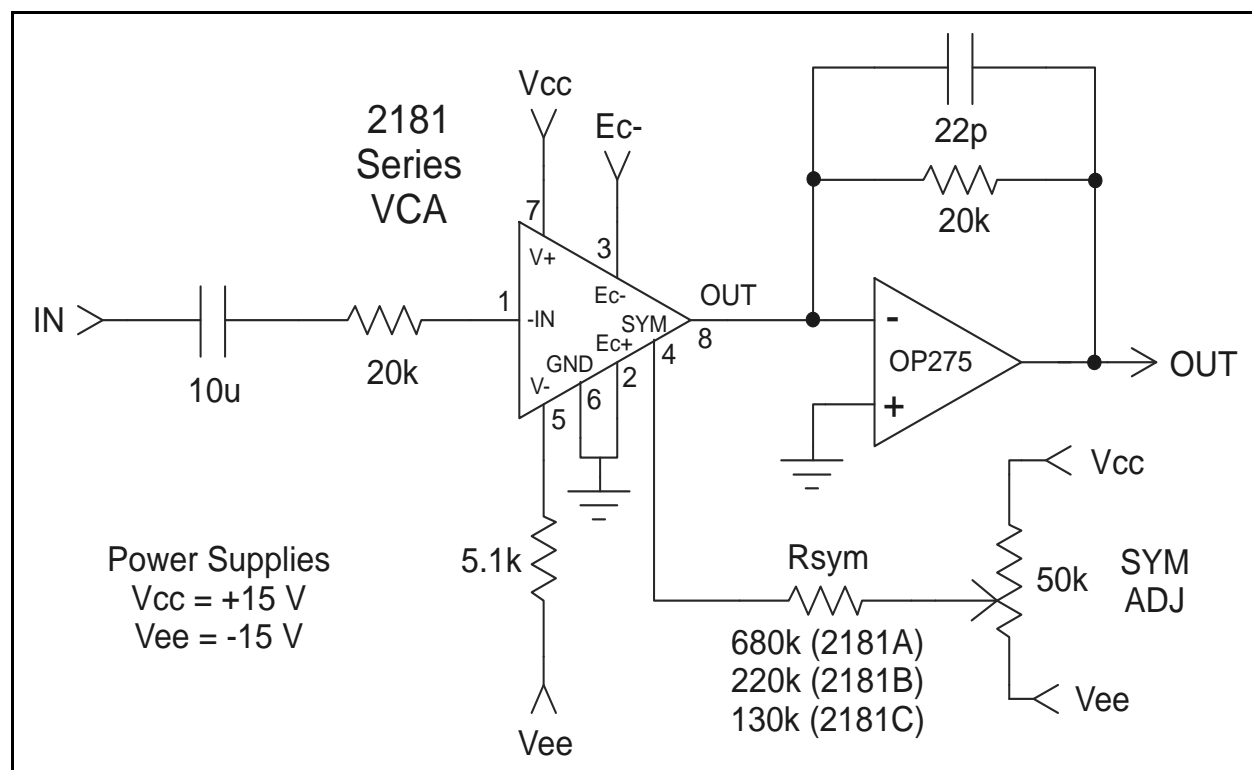
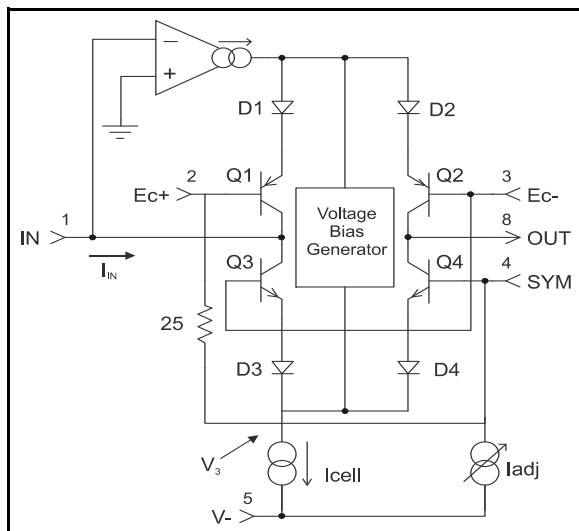
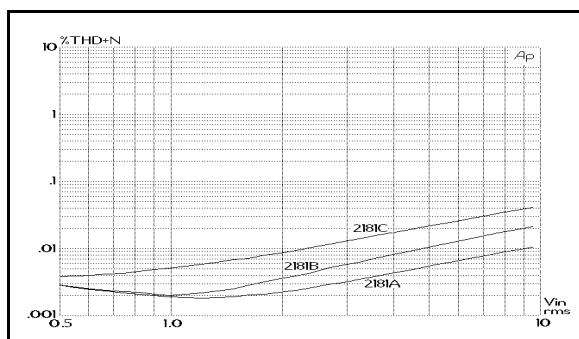
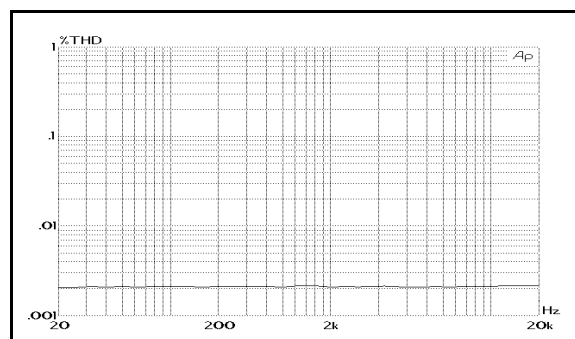

Figure 2. Typical Application Circuit
Figure 5. Simplified Internal Circuit Diagram
Figure 10. 1 kHz THD+Noise vs. Input Level, 0dB Gain
Figure 13. 2181A THD+N vs Frequency, 0dB gain 1kHz 1V
2. Unless otherwise noted,  $T_A = 25^\circ\text{C}$ ,  $V_{CC} = +15\text{V}$ ,  $V_{EE} = -15\text{V}$ . Test circuit as shown in Figure 2. SYM ADJ is adjusted for minimum THD at 1 V, 1 kHz,  $E_{C-} = -E_{C+} = 0$  V.
Figure 5 presents a considerably simplified internal circuit diagram of the IC. The ac input signal current flows in pin 1, the input pin. An internal operational transconductance amplifier (OTA) works to maintain pin 1 at a virtual ground potential by driving the emitters of Q1 and (through the Voltage Bias Generator) Q3. Q3/D3 and Q1/D1 act to log the input current, producing a voltage, V3, which represents the bipolar logarithm of the input current. (The voltage at the junction of D1 and D2 is the same as V3, but shifted by four forward Vbe drops.)
In normal operation, the output current is converted to a voltage via an opamp-based I-V converter, as shown in Figure 2, where the conversion ratio is determined by the feedback resistor connected between the output and inverting input. The signal path through the VCA and the output opamp is non-inverting.
The 2181 current consumption is determined by the resistor between pin 5 (V-) and the negative supply voltage ( $V_{EE}$ ). Typically, with 15V supplies, the resistor is 5.1 kΩ, which provides approximately 2.4 mA. This current is split into two paths: 570 μA is used for biasing the IC, and the remainder becomes  $I_{CELL}$  as shown in Figure 5.  $I_{CELL}$  is further
The 2181-Series VCAs are intended to be adjusted for minimum distortion by applying a small variable offset voltage to pin 4, the SYM pin. Note that there is a 25 Ω resistor internal to the 2181 between pin 4 and pin 2. As shown in Figure 2, Page 3, the usual method of applying this offset is to use the internal 25 Ω resistor along with a larger value resistor to form a voltage divider connected to the wiper of a trim pot across the supply rails.
The 2181-Series VCA design, fabrication and testing ensure extremely good audio performance when used as recommended. The 2181 maintains low distortion over a wide range of gain, cut and signal levels. Figures 10 through 12 show typical distortion performance for representative samples of each grade of the part. At or near unity gain, the 2181 behaves much like a good opamp, with low distortion over the entire audio band. Figure 13 shows typical THD for a 2181A over frequency at 0 dB gain, with a 1 V input signal, while Figure 14 details the harmonic content of the distortion in a typical A-grade part.
The Input pin (pin 1) is a virtual ground with negative feedback provided internally (see Figure 5, Page 4). The input resistor (shown as 20 k $\Omega$  in Figure 2, Page 3) should be scaled to convert the available ac input voltage to a current within the linear range of the device. Generally, peak input currents should be kept under 1 mA for best distortion performance.
Refer to Figures 10 through 12 to see how distortion varies with signal level for the three parts in the 2181 Series for 0 dB, +15 dB and -15 dB gain. The circuit of Figure 2, Page 3 was used to generate these curves.
A designer may trade off noise for distortion by decreasing the 20 k $\Omega$  current-to-voltage converting resistors used at the input and output in Figure 2, Page 3. For every dB these resistor values are decreased, the voltage noise at the output of the OP275 is reduced by one dB. For example, with 10 k $\Omega$  resistors, the output noise floor drops to -104 dBV (typical) at 0 dB gain — a 6 dB reduction in noise because 10 k $\Omega$  is 1/2 of (6 dB lower than) 20 k $\Omega$ .
The Output pin (pin 8) is intended to be connected to a virtual ground node, so that current flowing in it may be converted to a voltage (see Figures 2 & 15). Choose the external opamp for good audio performance. The feedback resistor should be chosen based on the desired current-to-voltage conversion constant. Since the input resistor determines the voltage-to-current conversion at the input,